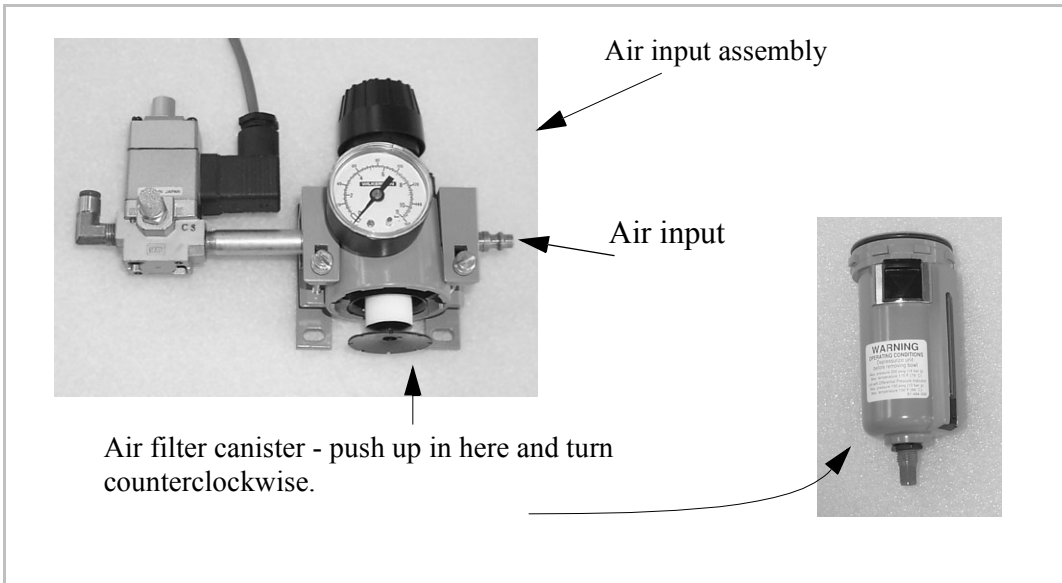

Figure 9 Air Input and Filter Canister
- 13. Compressed Air and Filter Canister Assembly** — Install the air filter canister by inserting and turning counter-clockwise. Connect the facility air input line. (see Figure 9)